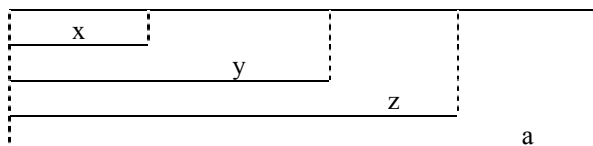

Fig. 1
- 2 Max. Capacity in kg's [(1) x 1000]/60 = _____ kg/min
- 4 Max. Load on Belt (2) / (3) = _____ kg/m
- 6 Loading across Weigh Span (4) x (5) = _____ kg
- 7 Effective Load on Load-cell = _____ (See Fig. 1)